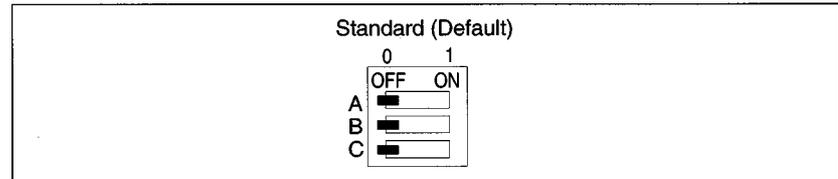

Figure 4-3. Standard switch S1 selection.
- Standard (refer to figure 4-3 page 19 and tables 4-1 to 4-2 page 19)